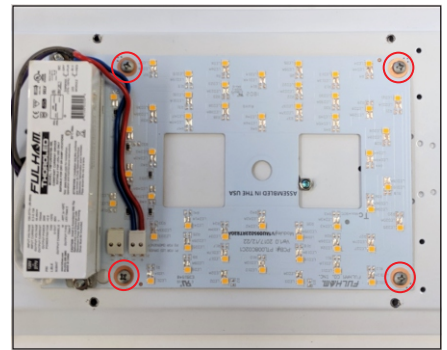

Figure 4
4. Use the supplied self-drilling screws (B) to attach the DC Engine (A) to the luminaire housing. See Figure 4.